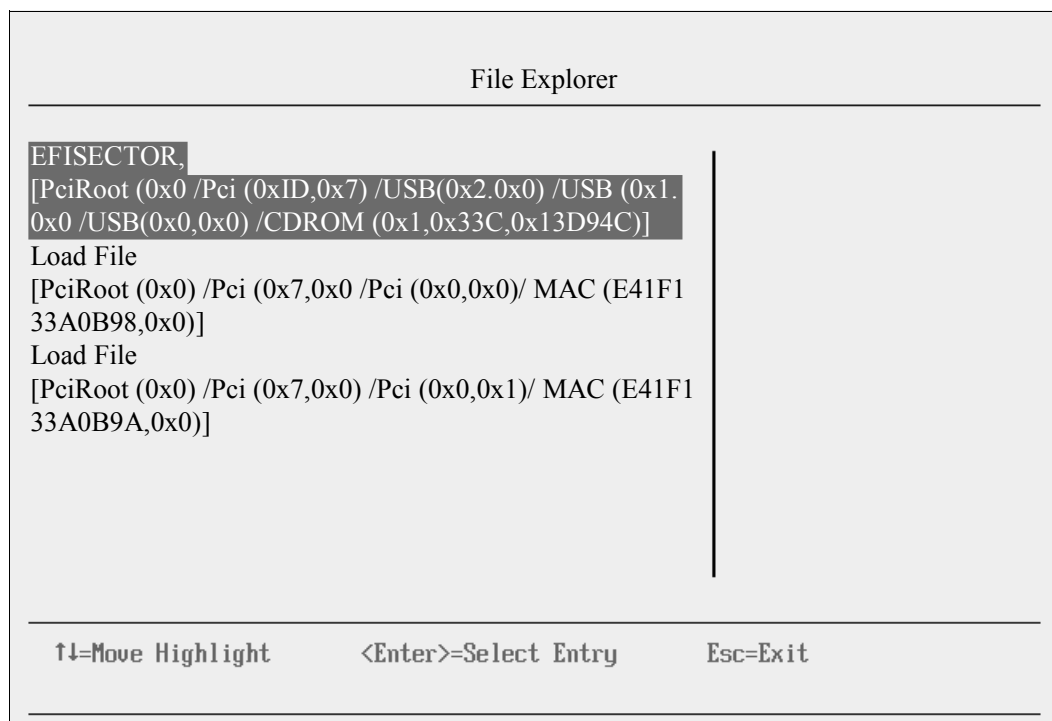

Figure 9-189 Selecting the CD
4. In the File Explorer panel (Figure 9-189), select **EFISECTOR** and the associated information.